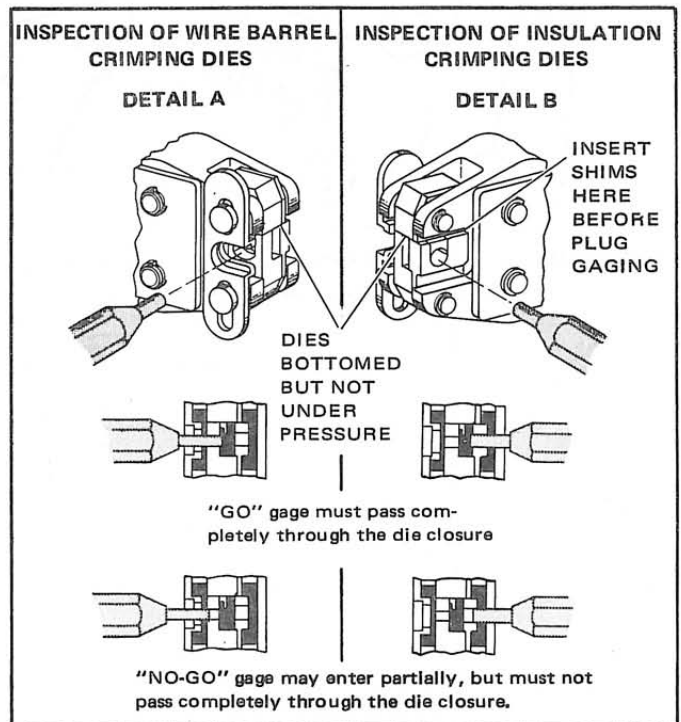

Figure 8
- (c) With crimping dies bottomed, check the wire barrel crimp die closure using the proper plug gage. Hold gage in straight alignment with the die closure and carefully try to insert, without forcing, the GO member, and then the NO-GO member. See Figure 8, Detail A. The GO member must pass completely through the wire barrel crimp die closure.
- (e) Insert a .005 shim between both bottoming surfaces of insulation crimp dies. See Figure 8, Detail B.
- (f) With crimping dies bottomed, check the insulation crimp closure in the same manner as steps (c) and (d). See Figure 8, Detail B.